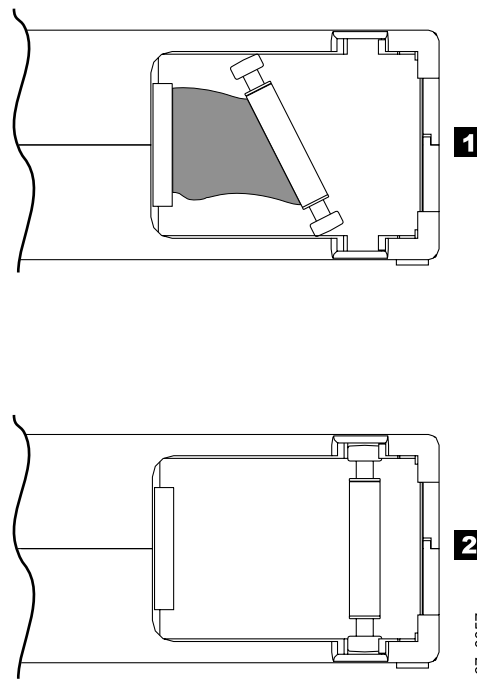

Figure 16. Leader pin in the incorrect and correct positions. The cartridge door is open and the leader pin is visible inside the cartridge.
- Do not drop the cartridge. If the cartridge drops, slide the cartridge door back and ensure that the leader pin is properly seated in the pin-retaining spring clips (see **2** in Figure 16 on page 55). If the leader pin has become dislodged, go to “Repositioning or Reattaching a Leader Pin” on page 55.
A leader pin that is improperly seated inside a cartridge can interfere with the operation of the drive. Figure 16 shows a leader pin in the incorrect **1** and correct **2** positions.